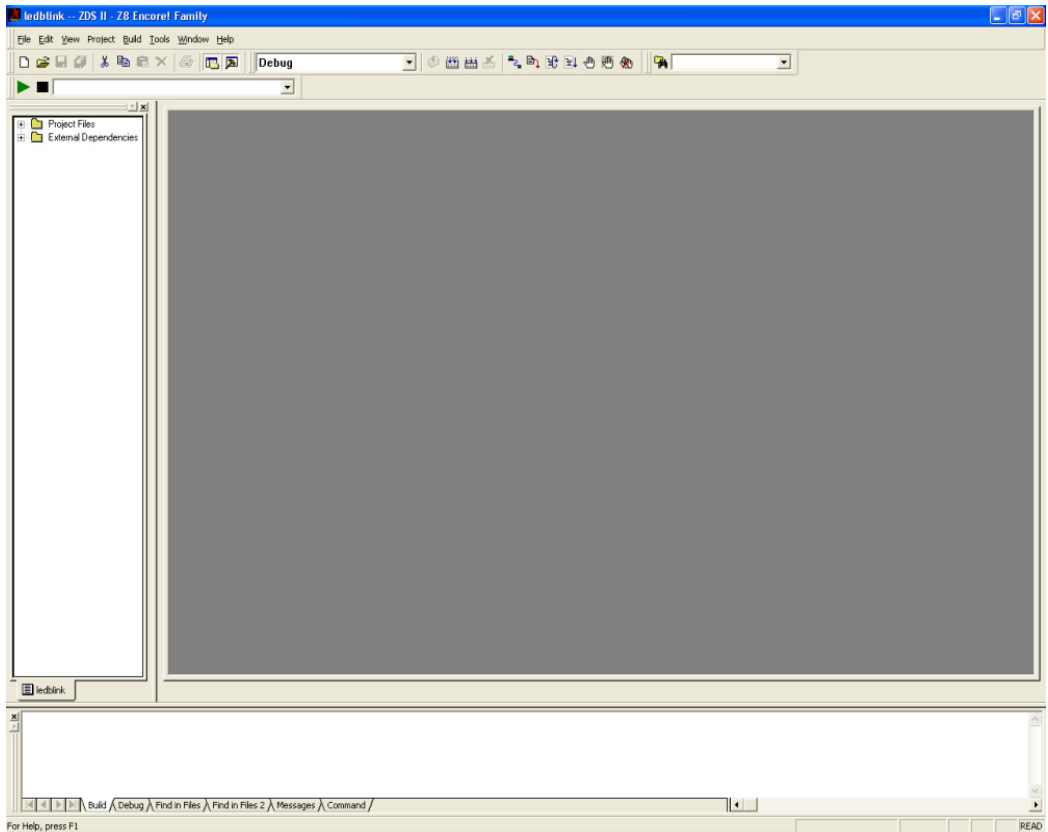

Figure 3. ZDS II Program Screen
5. Select the ledblink.zdsproj file and click **Open**. The initial ZDS II program screen is displayed (see Figure 3 on page 9).